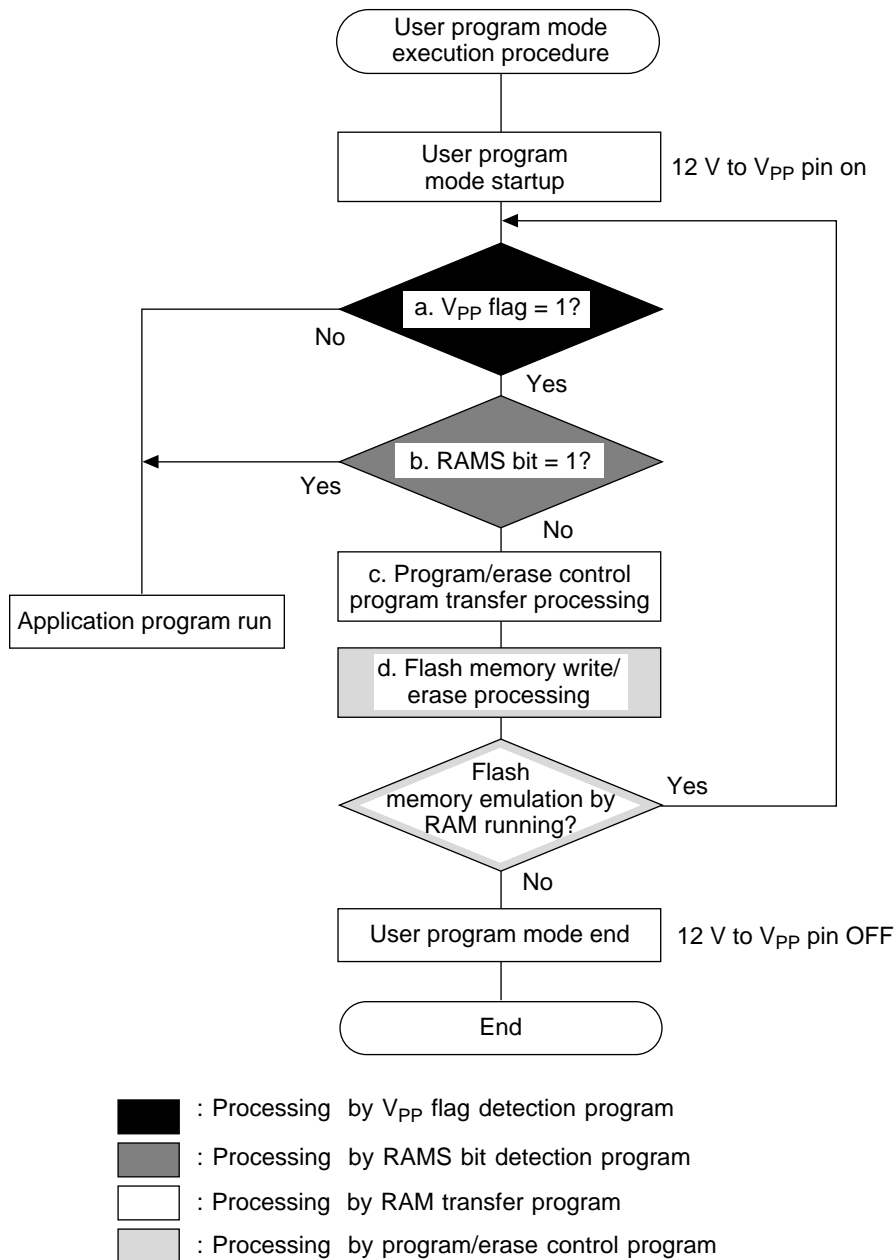

Figure 4.7 User Program Mode Startup Procedure
Processing in each of the programs listed in figure 4.6 is described in figure 4.7.
2. User program mode startup procedure: Figure 4.7 shows this procedure.